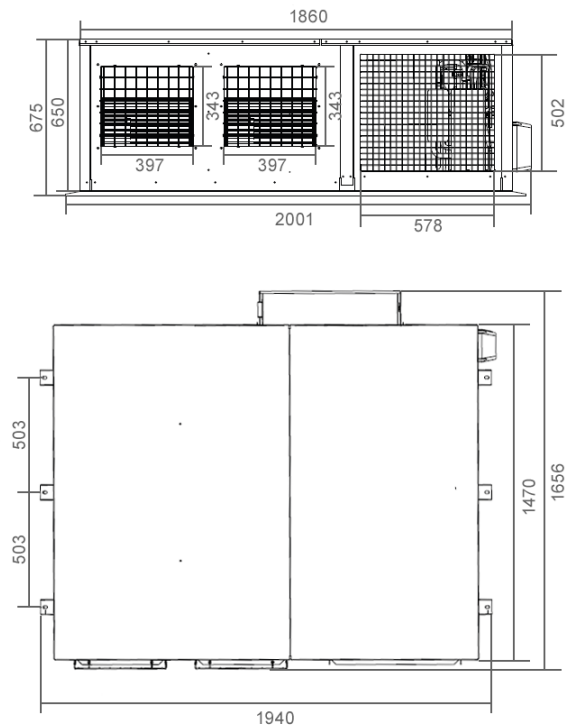

Fig. 3-2 Dimension of Air-conditioning Unit
2) Fig. 3-2 is applicable for models of GIA-CEN-22KOMP